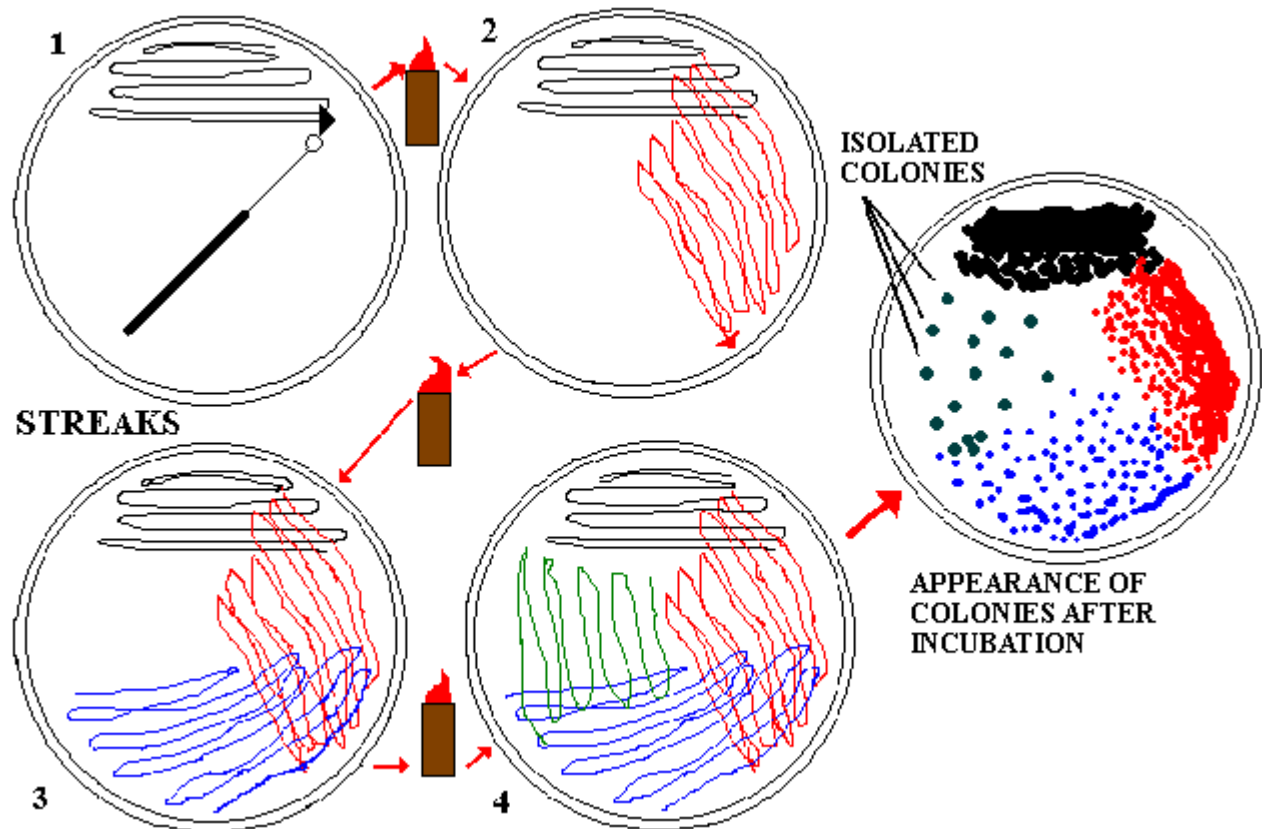

Figure 1: Streaking technique to isolate individual colonies.¹
23. Select LB –pAMP plate and lift lid only enough to perform streaking as directed below and also shown in **Figure 1 on the next page**. *Do not place top on lab bench.*